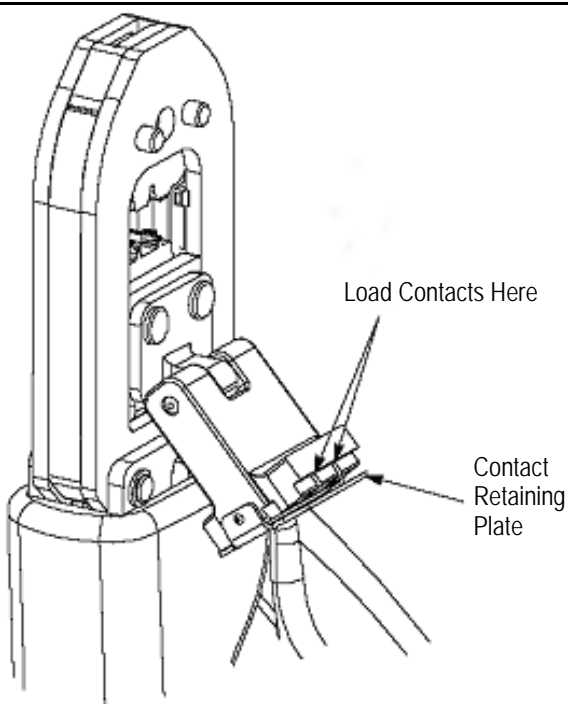

Figure 4
6. Once the contact is loaded, release the contact retaining plate and flip the locator up 90°. See Figure 4.